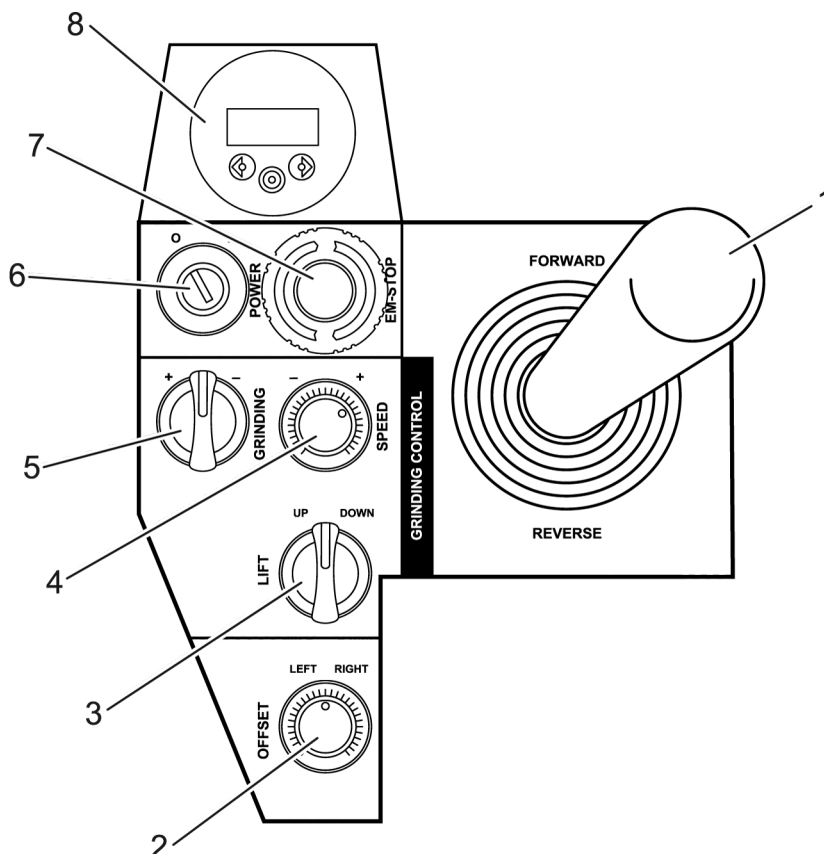

Figure 3-3. Control panel - left
- Turn the control to the left/right to adjust any veering tendencies, see Figure 3-3, page 12.